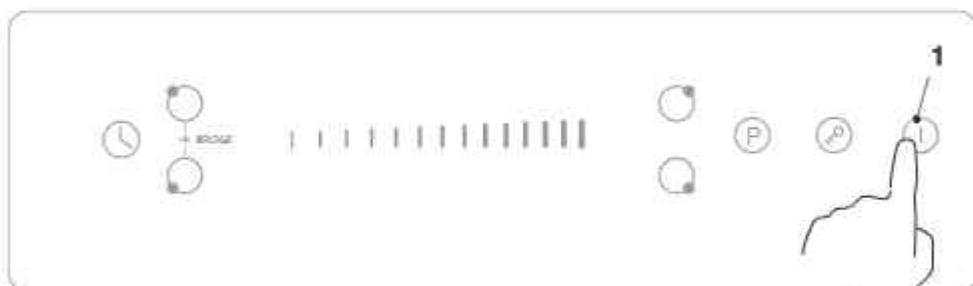

Fig. 4.35
The total power of the induction hob with ECO function can be limited to 2.8/3.5/6.0/7.2 kW with proper power supply (see "ECO function setting table" after Fig.4.35).
- 4 - Press the hotplate button (5) in question, the number shown on the display indicates that the total power will be reset to the respective ECO power settings (e.g., the front left area button is associated with the number on the display "28," which corresponds to 2.8kW; see also the "ECO function setting table" after Fig.4.35).